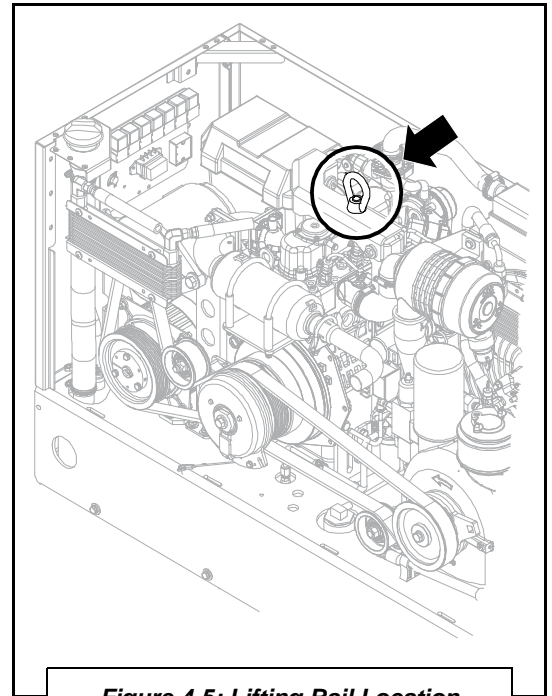

Figure 4-5: Lifting Bail Location
3. Place the unit in a preliminary position on the service body so that the front panel access and hood opening (front) side is easily accessible, and the control trunk line and all other connections will reach the unit. Refer to *Figure 4-5* for lifting bail location.